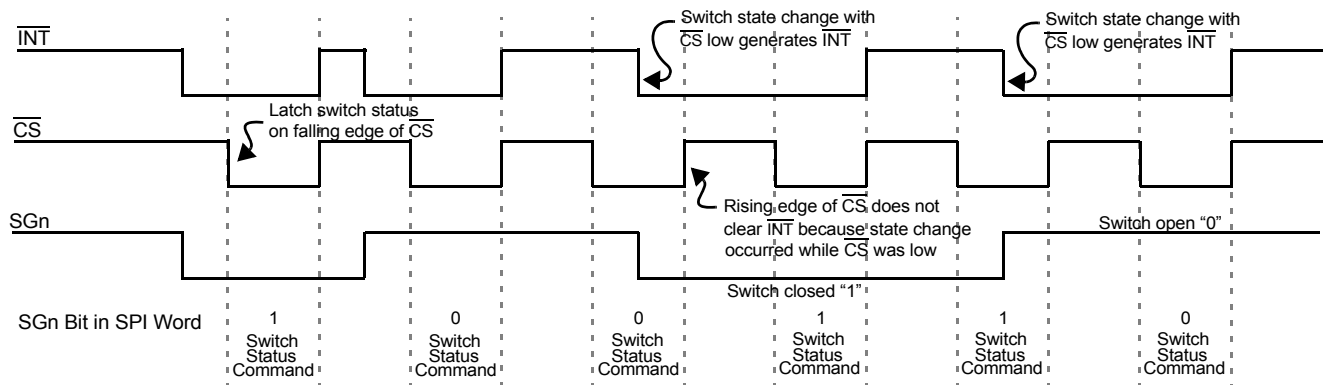

Figure 6. Normal Mode Interrupt Operation
1.  $\overline{INT}$  terminal is reset to logic [1], except when additional switch changes occur during  $\overline{CS}$  low (see Figure 6, page 10).
Figure 6, page 10, is a graphical description of the device operation in Normal mode. Switch states are latched into the input register on the falling edge of CS. The INT to the MCU is cleared on the rising edge of CS. However, INT will not clear on rising edge of CS if a switch has closed during SPI communication (CS low). This prevents switch states from being missed by the MCU.